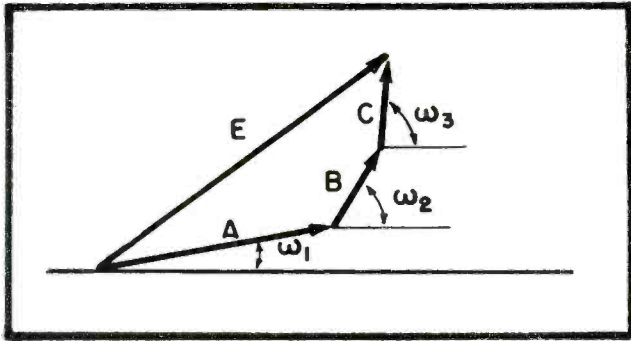

Figure 1
In Figure 1 appears the rotating vectors which represent the sum of three waves of different frequencies where A is the carrier, B the upper sideband, and C the lower sideband. This representation is for the general case where the upper and lower components are present in an amplitude-modulated envelope: the vectors are also present in an amplitude-modulated envelope. The vectors shown may be expressed in terms of the resultant (E) as follows: